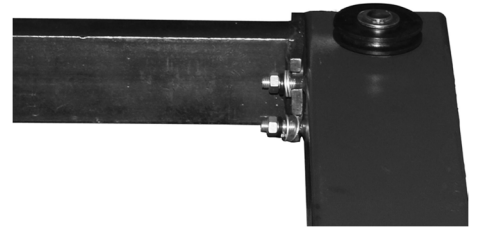

Fig. 9
- Using a lifting device, raise the Overhead Beam assembly and connect to uprights at each end, using the bolts, nuts and washers, as shown in **(Fig. 9)**.